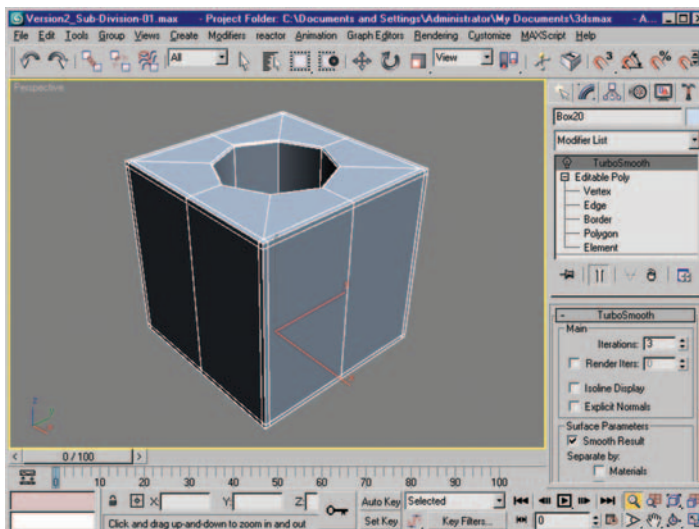

Figure 6.34 Mesh after performing Chamfer on edges.
11. Use Chamfer on the edge selection with a value of 0.18 (Figure 6.34). Activate TurboSmooth (three iterations) to see the final result. Figure 6.35 shows the final mesh as it should appear in your viewport.